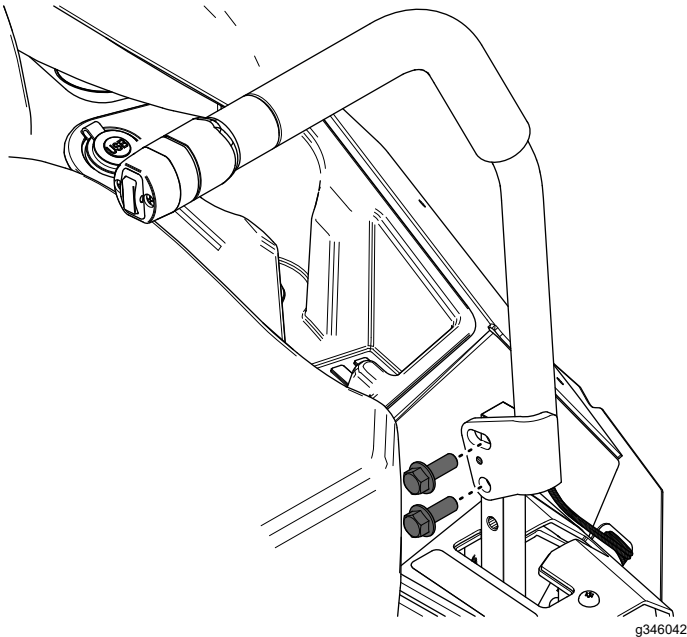

Figure 7
1. Secure the new left motion-control lever using the previously removed 2 flange-head bolts (3/8 x 1 inch) as shown in Figure 7.